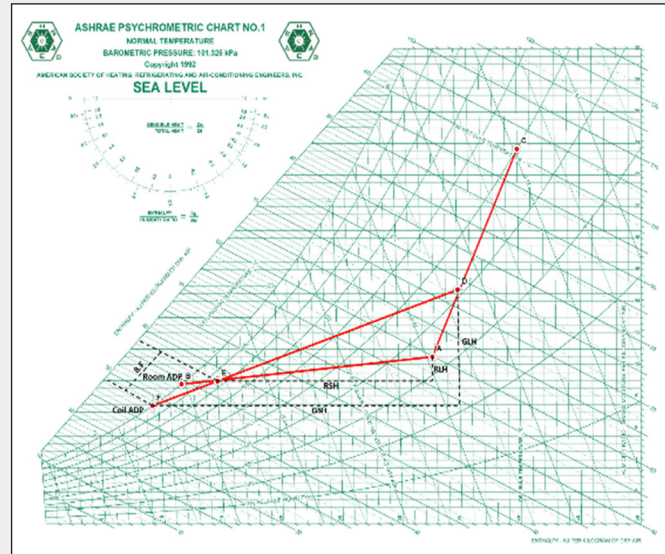

Figure 9: Bypass Factor (marked on extreme left)
This quantity of air to the total quantity circulated is termed as coil bypass factor (BF). It is also assumed that the remaining quantity of air (1- BF) reaches saturation point F and is therefore, called as dehumidified air, (1- BF) factor is also referred as the "contact factor." These are marked in Figure 9. (Ref: Fundamentals of Psychrometrics-Carrier-page24).